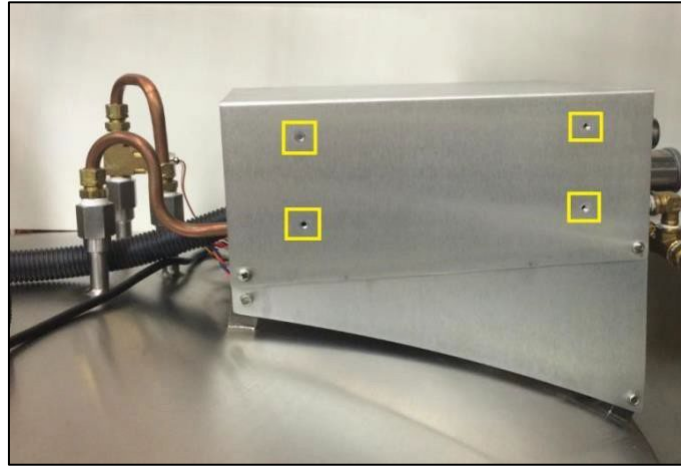

Figure 4 - Vario Screw Location on the Plumbing Stack Cover
- 1.3. Use the 10-32 screws to install the bracket to the freezer on the plumbing stack cover. Please reference Figure 4 and 5 for an example of the Vario Freezer Plumbing Stack Cover.